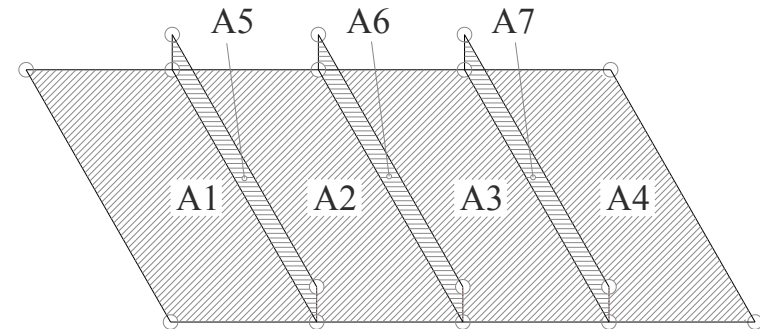

Figure 14. Areas
Step 4: Defining areas, see Figure 14
adrag,e,,,,,f  ! Creates area A1, see Figure 14
adrag,e,,,,,k ! Creates area A2 to A4, see Figure 14
adrag,b,,,,,c ! Creates areas A5 to A7, see Figure 14
adrag,a,,,,,a+1 ! Creates areas A1 to A4, see Figure 14